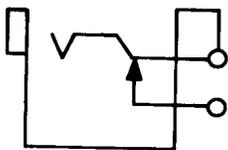

Fig. 11—233A or C Jack
2.11 233A and C: These single-mounted jacks (Fig. 11) are used with 153, 209, 241, 305, 327, 328, 347, 373, and 464 plugs. These are heavily insulated jacks. These jacks are mounted with the springs in a vertical plane.